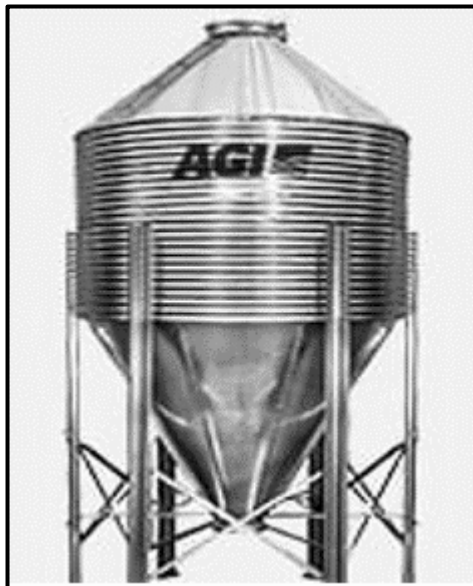

FIGURE 4.14
4.14 What type of hopper is shown in FIGURE 4.14 below?